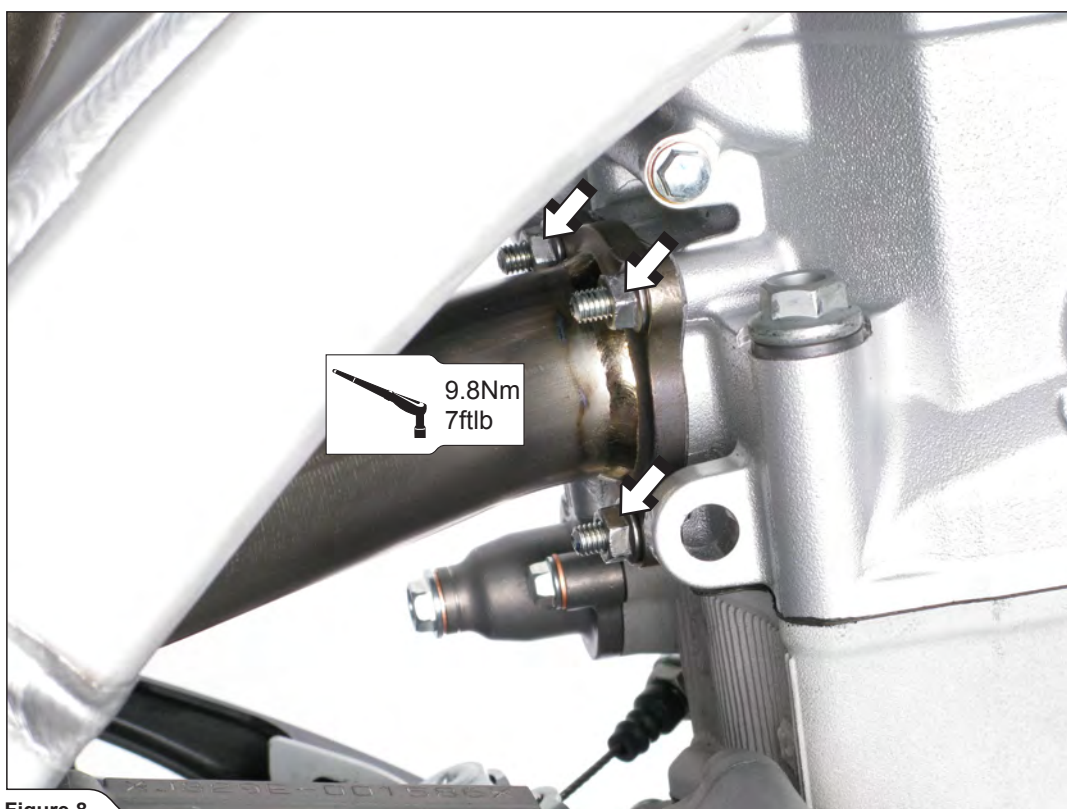

Figure 8
1. Attach the Akrapovič header pipe using stock nuts. Tighten the nuts to a specified torque (Figure 8).